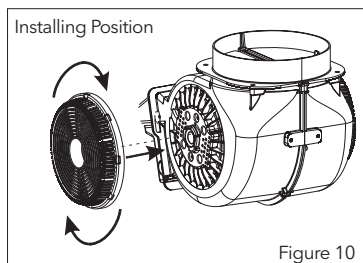

Figure 10
- Charcoal filters are installed onto both sides of the fan as shown in Figure 10 by turning 10 degrees clock-wise.